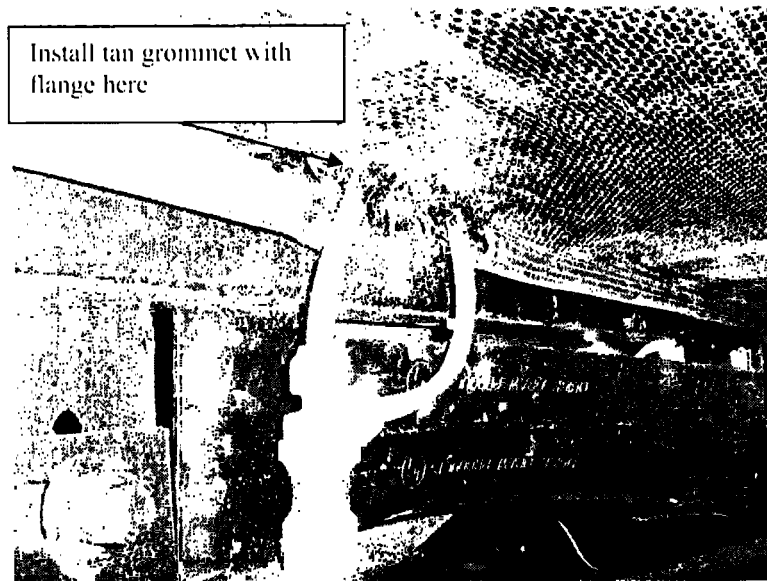

Fig. 3
Step 8 Cut a section of 'D' seal out as shown below and drill two 1" holes as close to support channel as possible (see fig 3) and install new copper lines from stove and refrigerator to the connections shown below. Install the pre-made copper line so the tan plastic grommet is on the bottom of the slide room floor. Attach the grommet to the floor with a small screw or staple.